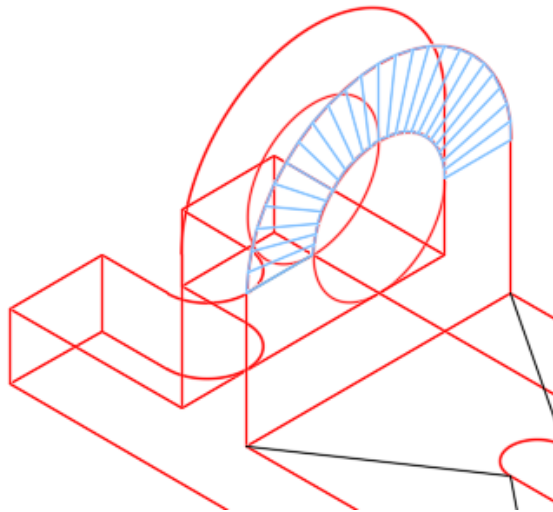

Figure Step 16
Step 16 On layer: Surface 1, insert a ruled surface between the arcs. (Figure Step 16)